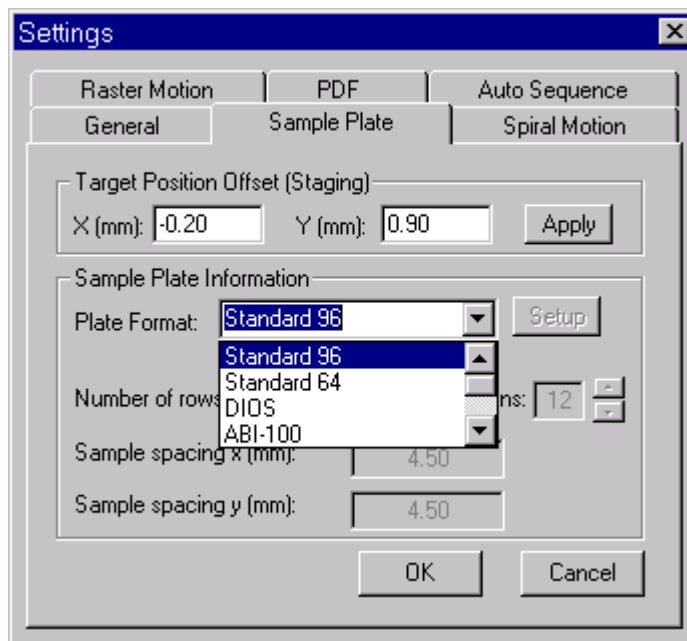

Figure 7.18 Plate Formats Supported by the Target Version 7.0 and the AP/MALDI Ion Source
- Typical parameters that represent a good starting point for the AP/MALDI measurements are shown in Figure 7.18 and 7.19.